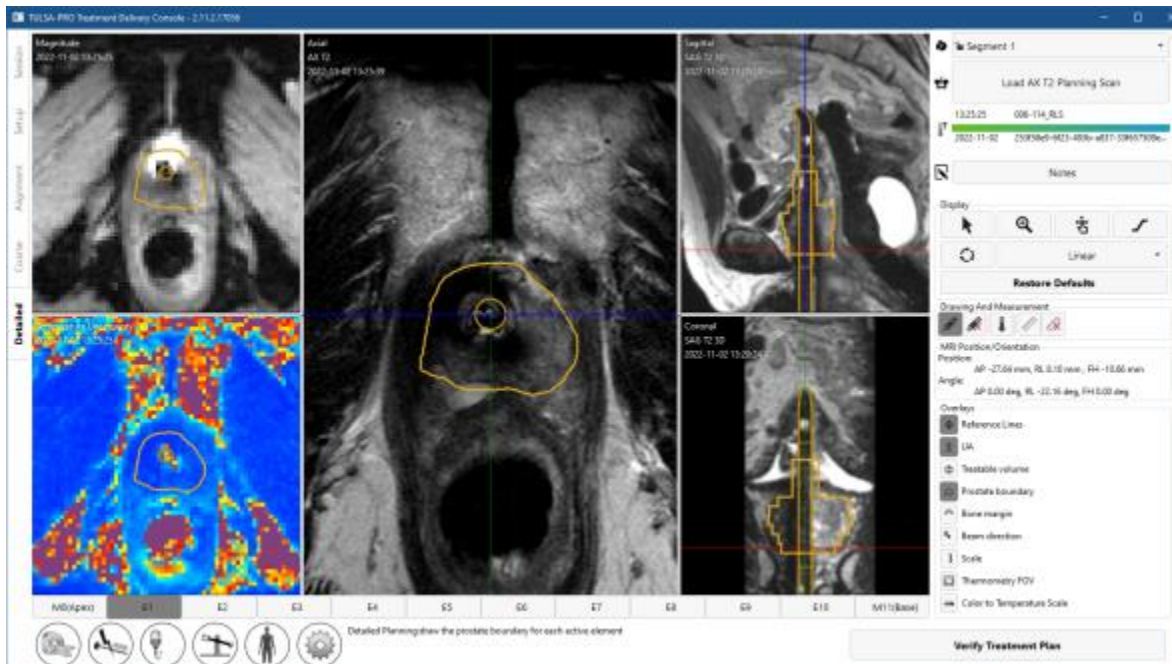

Figure 39: Detailed Planning after drawing boundaries
2. To draw the prostate boundary, select the drawing tool and outline the tissue to be ablated on each slice based on the corresponding AX T2 and THERM magnitude images (*Figure 39*). You can select individual slices by clicking on the numbered tab at the bottom of the screen or by pressing the left and right arrow keys on the keyboard. Use the sagittal and coronal views of the SAG T2 images to verify the intended ablation zone in three dimensions.